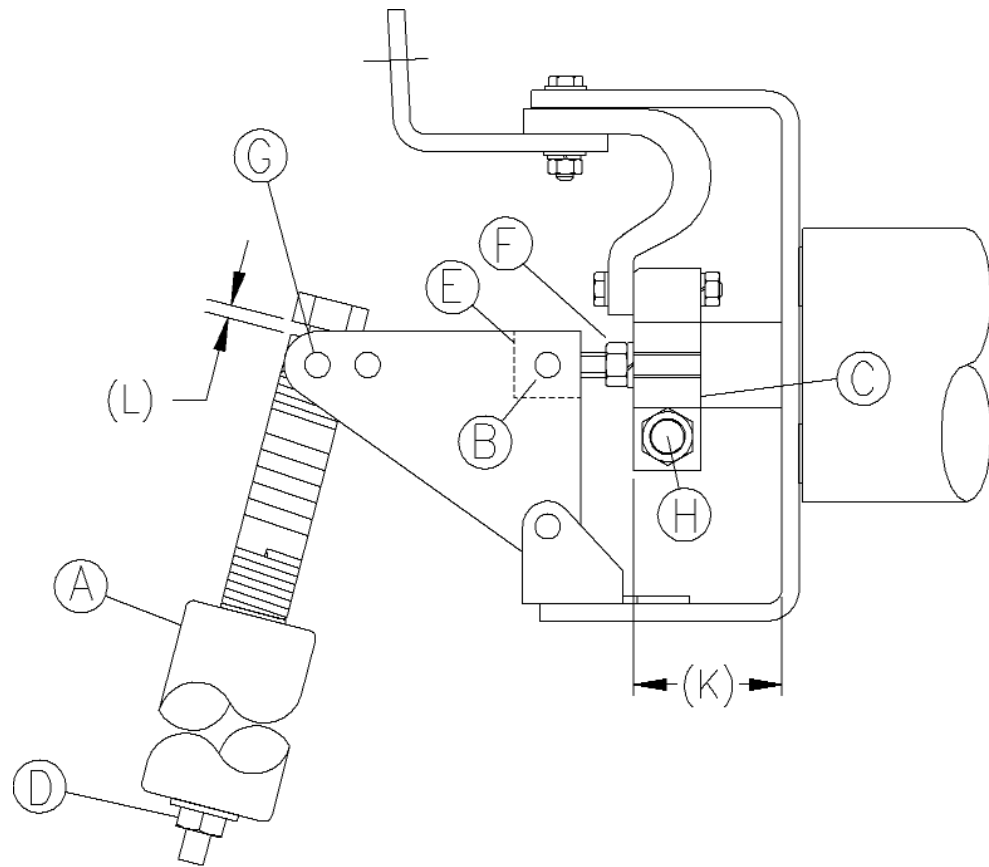

Figure 8. Contact Travel and Over-Travel Adjustment 15.5 and 27 kV
1. Using pliers, expand the "X" type retaining rings (G) at the top of the pullrod (A) and disconnect the pullrod from the triangle bellcranks. (Figure 8)
7. Support the moving contact of the vacuum interrupter at the contact block (C) and loosen the nut (F) taking care not to apply any torque to the end of the vacuum interrupter as damage may result. (Figures 8).
8. With the stem nut loose (F), install the shoulder pin and washers through the triangular bellcranks to the bolt stem (B) (E) and fasten with the new locknut provided.
9. Install the opposite end of the new bellcranks to the top of the pullrod (G) using the new "X" type retaining washers provided and compress with pliers.
10. Torque the bolts and connections at (M) (N) per the torque specifications in section 9.0.8. **DO NOT TIGHTEN THE BOTTLE STEM NUT (F) ON THE VACUUM INTERRUPTER UNTIL INSTRUCTED TO DO SO.**
11. Ensure that the locknut (F) on the bolt stem (E) is loose while supporting the moving contact to prevent any torque from being exerted on the internal bellows of the vacuum interrupter.
12. Remove the shoulder bolt (B) while applying pressure from the back of the contact block. Allow the contact block to move slowly to the closed position. Caution: Finger pinch point.
13. Loosen the pullrod locknut (D).
14. Turn the pullrod until the center of the hole for the shoulder bolt (B) is 1.687" from the contact block (C). (This step sets a reference point for the bell cranks.)
15. Spin the bolt stem (E) until the shoulder bolt (B) can be inserted, then remove the shoulder bolt (B). (This step establishes a reference from VI contact to the bell cranks.)
16. Spin the bolt stem (E) 6 to 6.5 full turns (6.5 turns is preferred final travel, but 6 is acceptable prior to contact conditioning) clockwise. (This step sets the contact travel.)
17. Pull from back of contact block (C) until shoulder bolt (B) can be inserted.
9.3 Contact Travel and Over-Travel Adjustment (See Figure 8) (Control power required)